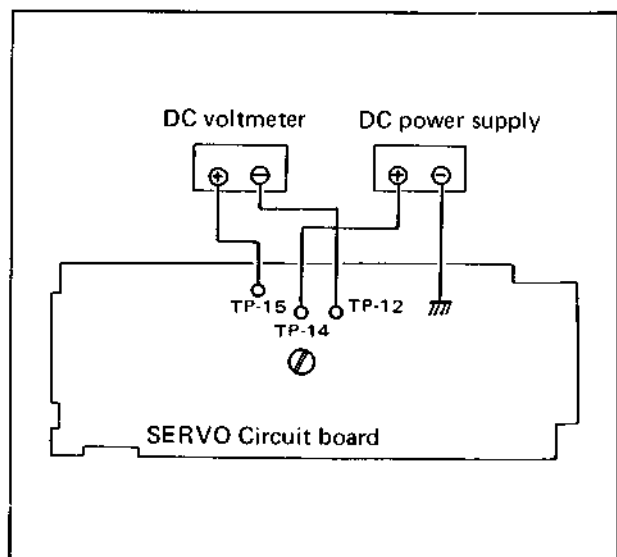

Fig. 5-3 Drum discriminator gain
3. Connect the DC voltmeter between TP-15 (DRUM INVERT IN) and TP-12 (DRUM NON-INVERT IN) as shown in Fig. 5-3.